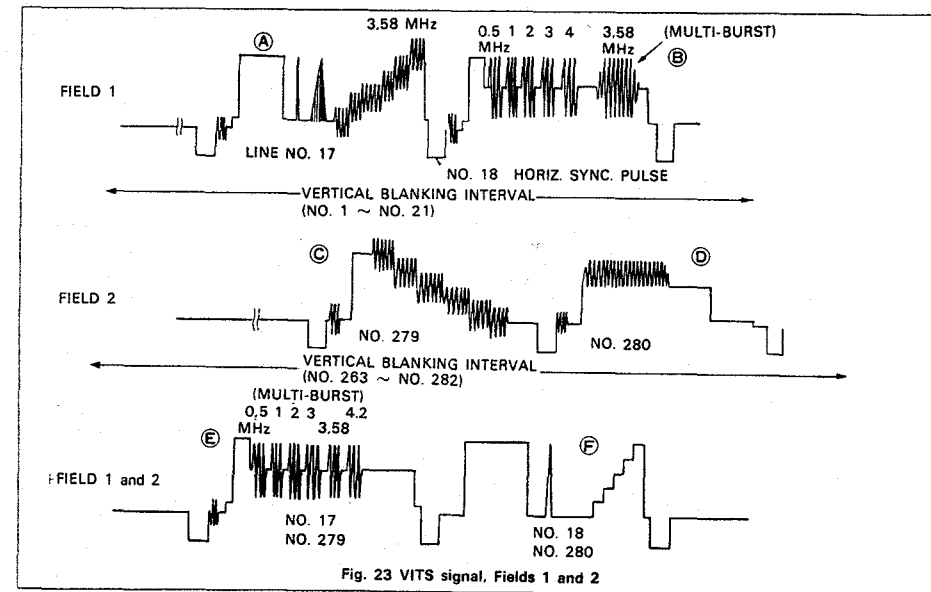

Fig. 23 VITS signal, Fields 1 and 2
Many of the television servicing procedures can be performed using single-trace operation. These are outlined later in the applications section covering single-trace operations. One of these procedures, viewing the VITS (vertical interval test signal), can be accomplished much more effectively using a dual-trace oscilloscope. As outlined in the single-trace applications section and as shown in Fig. 23, the information on the Field 1 and Field 2 vertical blanking interval pulse is different. This is shown in detail in Fig. 23. Also, because the oscilloscope sweep is synchronized to the vertical blanking interval waveform, the Field 1 and Field 2 waveforms are superimposed onto each other.
The transmitted VITS is precision sequence of a specific frequencies, amplitudes and waveshapes as shown in Fig. 23.
The first frame of VITS at the "B" section (line 18) in Fig.23 begins with a white reference signal, followed by sine wave frequencies of 0.5 MHz, 1.0 MHz, 2 MHz, 3 MHz, 4.0 MHz and 3.58 MHz. This sequence of frequencies is called the "multi-burst".
- Set the SWEEP TIME/DIV control to the 0.1 ms/div position. This expands the display by increasing the sweep speed. The VITS information will appear toward the right hand portion of the expanded waveform displays. The waveform information on each trace may appear as shown in Fig. 23.
- With the delay sweep applied (see page 13), adjust VITS signals as shown in Fig. 23.